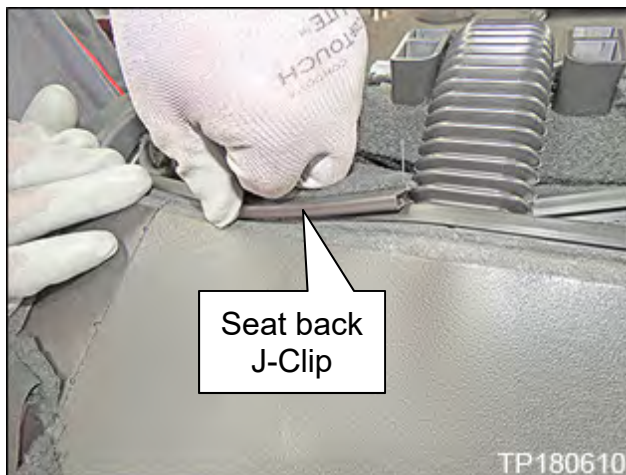

Figure 43
44. Attach the two (2) seat back J-Clips (Figures 43 and 44).